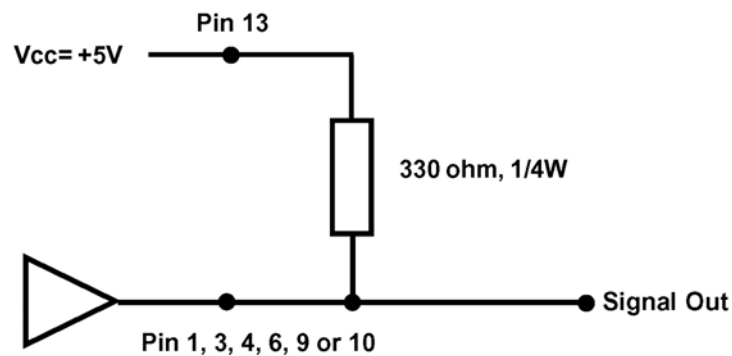

Figure 3-7, Signal Diagram
2. Route interface cable (1, Figure 3-7) from host computer to interface board (2).
3. Insert interface board (2) into printer (4) and secure using two screws (3).
4. Connect interface cable (1).